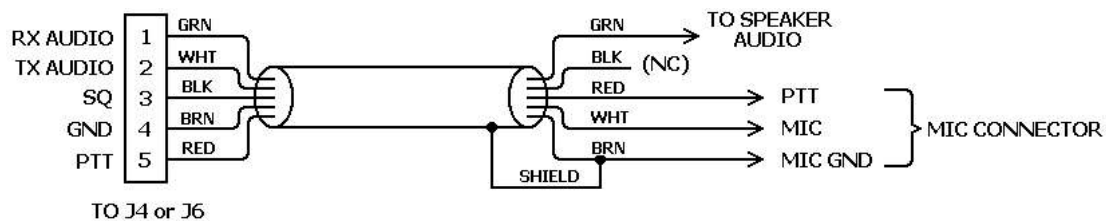

Figure 2-3 Radio-to-PK-232 Connection
- o verify that your radio and PK-232 are connected as shown in Table 2-1 earlier in this manual and Figure 2-3 below;
3. Verify that your PK-232 and FM radio are connected as shown in Figure 2-3 below.
1. Connect your PK-232 and SSB radio as shown in Figure 2-3.